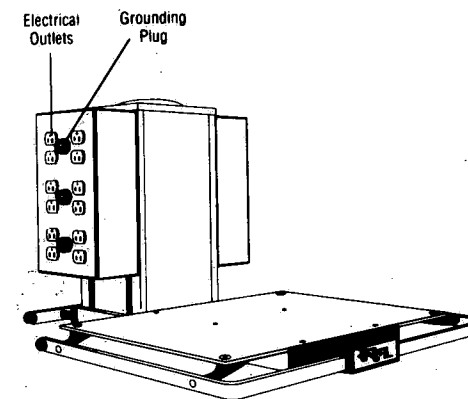

Figure 2-5. Electrical Outlets
2. Grounded 120 VAC, electrical receptacles (four duplexes on earlier production units; six duplexes on later production units) and patient grounding plugs (four on earlier production units; three on later production units) are located along the left side of the support head (see Figure 2-5).
3. Low voltage conduit containing pull cord is provided behind the side access panel, along right side of support head (see Figure 2-5). This can be used, if desired, for data/communication service (by others).